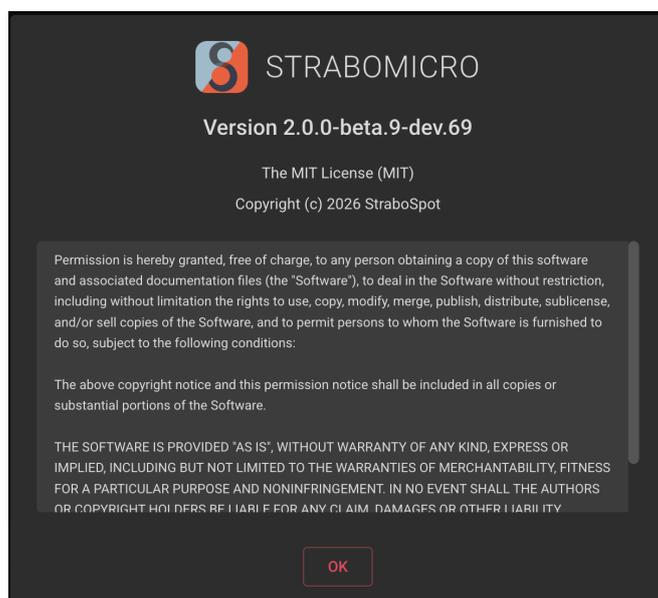

Figure 6. The About StraboMicro dialog showing version information.
4. The version number will be displayed in the dialog window (Figure 6).